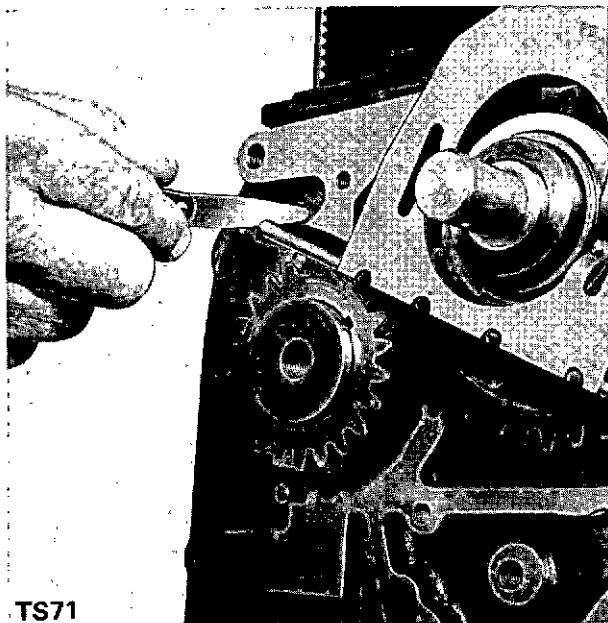

Fig. 36 Setting 'E' Adjustment.
- (a) Adjustment 'E' should be checked and if necessary shims added or removed to obtain a clearance of between 0.12mm (0.005'') and 0.25mm (0.010'') (Fig. 36).